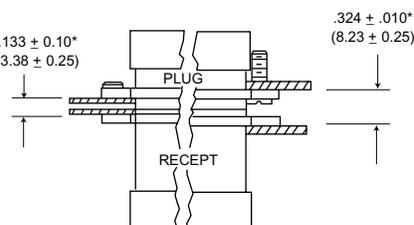
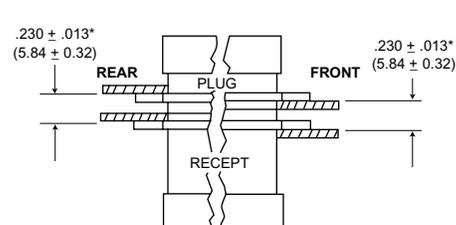

Figure 3 Figure 4
Figure 5 Figure 6
- With plug assembly front mounted and receptacle assembly rear mounted, use hardware from Figures 5 and 6. If float mounting is desired, use Figure 3 or 4 for the float mounted connector.